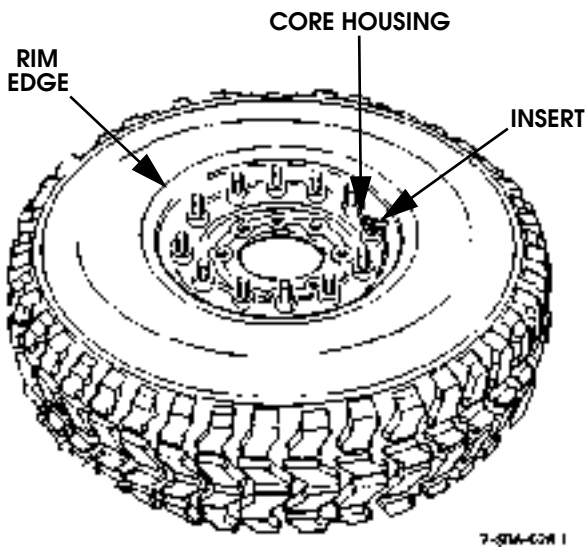

Figure 6-17: Leak Check Areas
21. Check for leaks around rim edges, insert, and core housing with soapy solution (Figure 6-17).